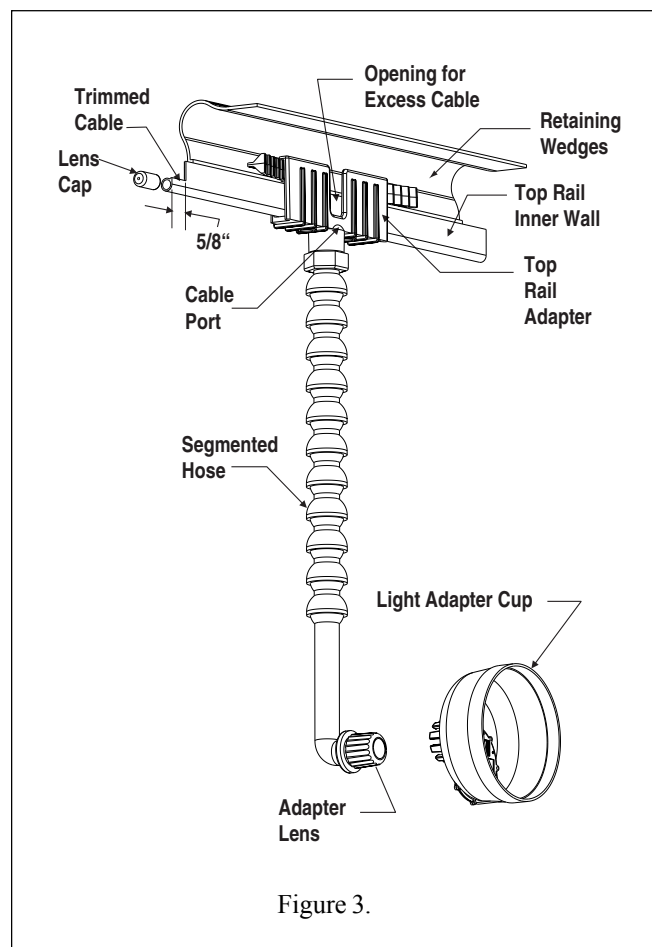

Figure 3.
4. Place top rail adapter onto the top rail and lock into place with retaining wedges, as shown in Figure 3.
1. Position extra top rail adapter so that extra cable is coming out opening in back of adapter. See Figure 3.
2. Place top rail adapter onto top rail and lock into place with retaining wedges as shown in Figure 3.